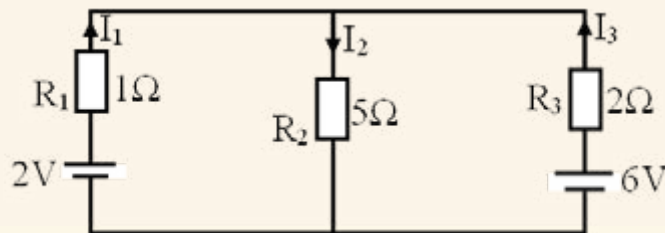

Figure 4.19
2. Using Kirchoff's law in Figure 4.19, calculate